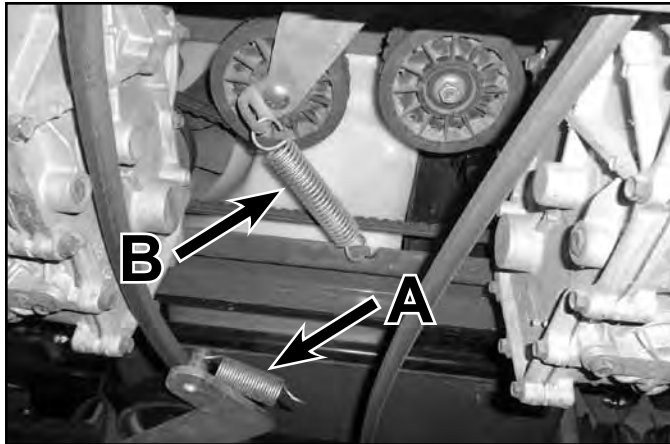

Fig. 052
3. Remove PTO belt tensioner spring (A) from the deck to relieve PTO belt tension as shown in chapter 6 (Fig. 052).
7. Remove the drive belt tensioner spring (B) (Fig. 052).